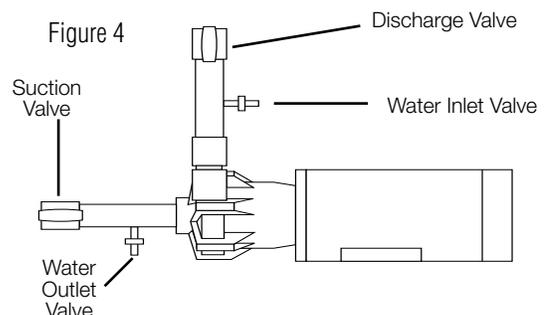

Figure 4
- CAUTION:** To stop the pump if prime is lost, use one of the following: (1) pressure switch on the discharge, (2) vacuum switch on the suction, (3) a motor minder to monitor motor current.
12. When pumping liquids that may solidify or crystallize, a flush system should be added to the piping. See Figure 4. Install water inlet and outlet valves as shown.